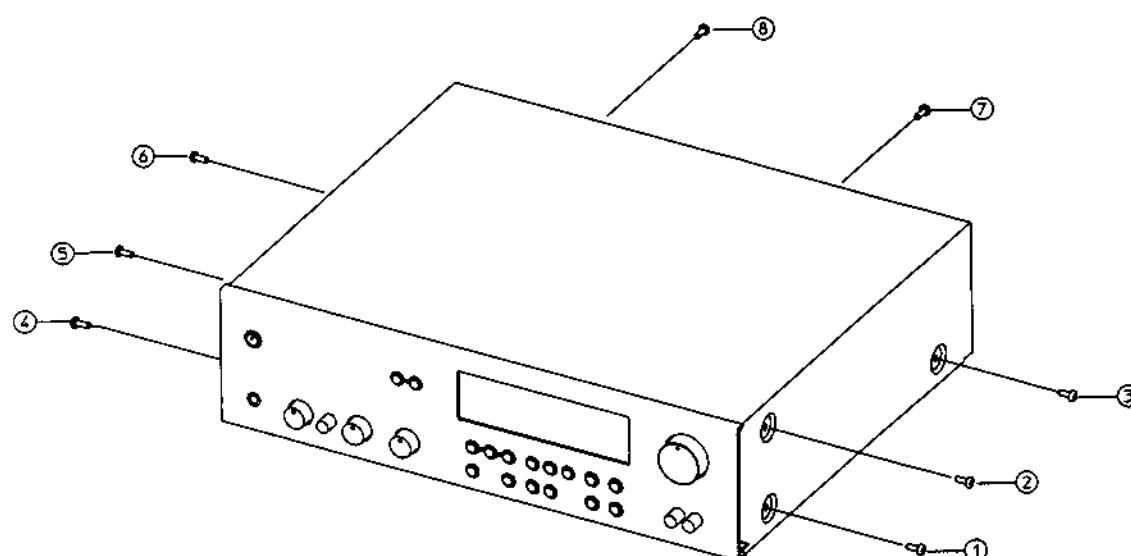

Figure No. 1.
1. Remove machine screws M4.0 x 6.0 (① to ⑥) from the side panels. Remove tapping screw 3.0 x 8.0 (⑦ and ⑧) from the back panel. Refer to **Figure No. 1**.